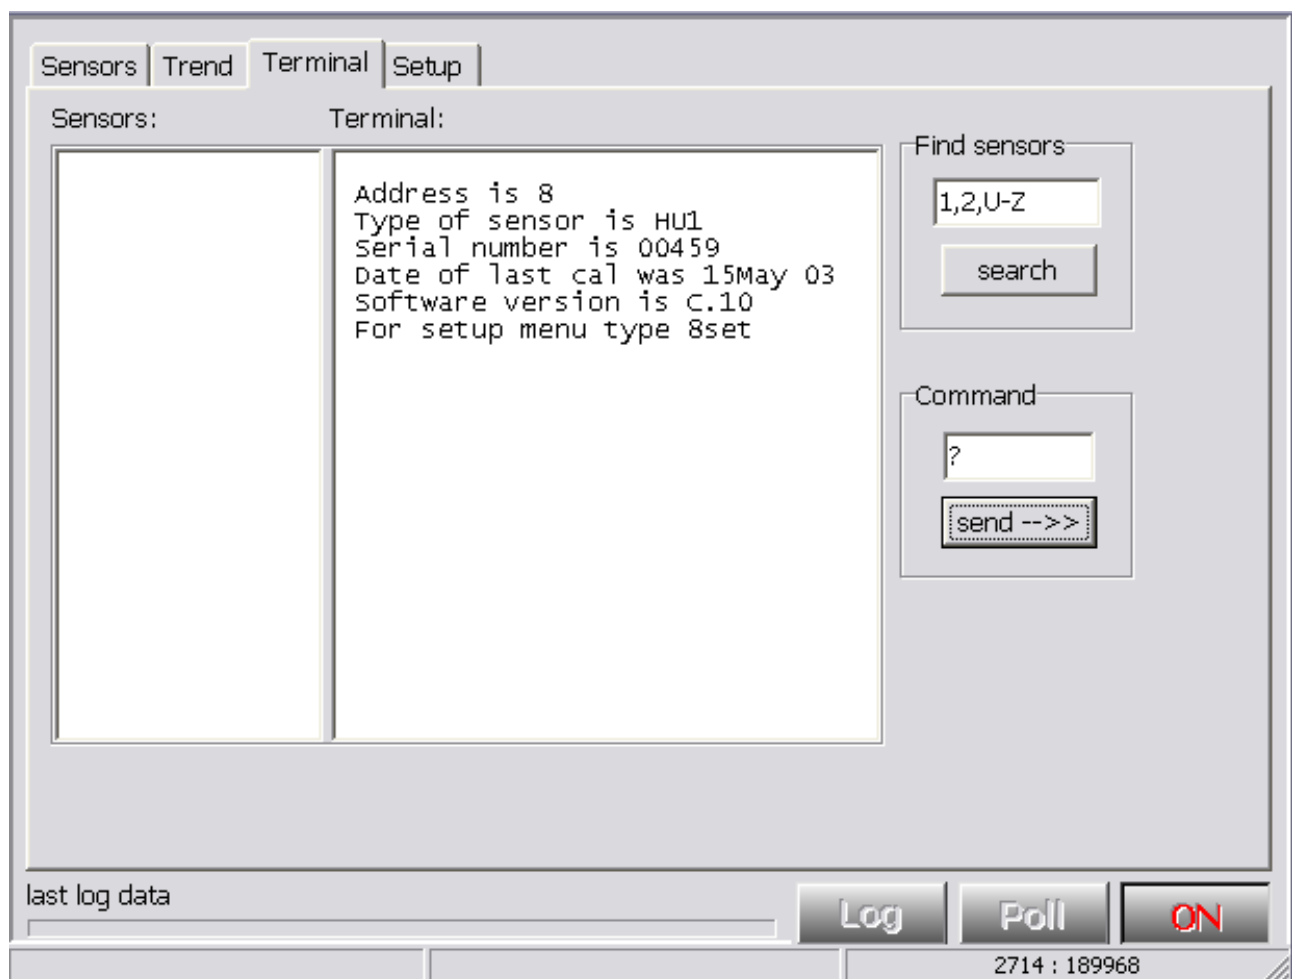

Figure 8. Terminal Panel.
2. Connect one sensor at a time to identify each sensor and the sensor address. Enter ? in the command edit box and click the **send** button. The connected sensor should respond with identification text within 2 seconds (see Terminal Panel of Figure 8). Take note of the detected address (e.g. Address 8).